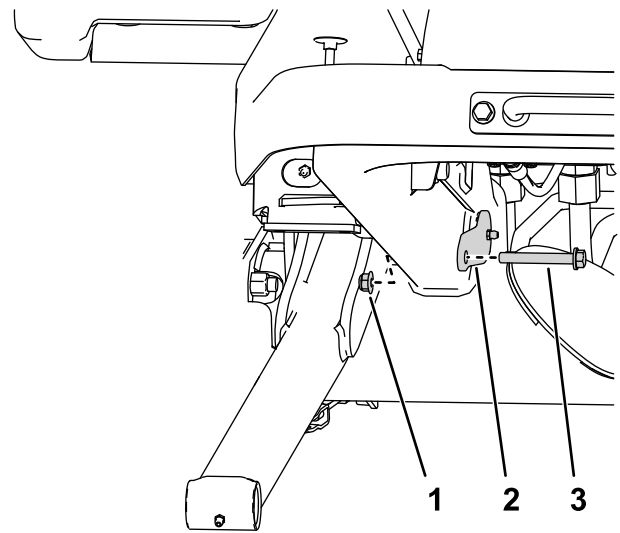

Figure 11
3. Secure the large pin to the lift arm using a pair of nuts and bolts as shown in Figure 11.